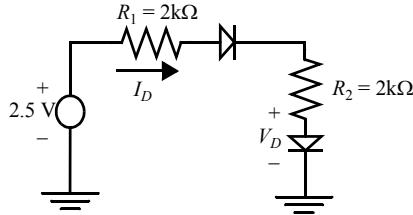

Figure 0.1 Resistor diode circuit.
- a. Consider the circuit of Figure 0.1. Using the simple model, with $V_{D_{on}} = 0.7$ V, solve for I_D .